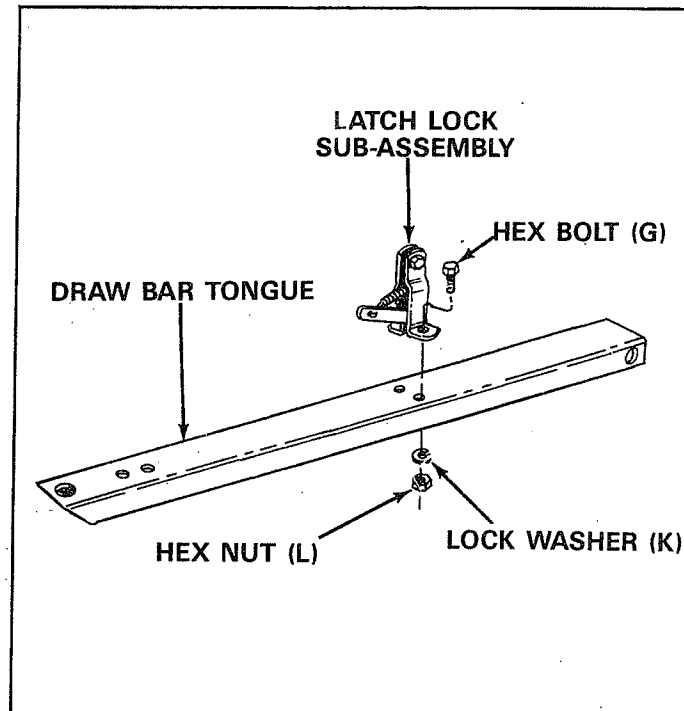

FIGURE 10
- Tighten all bolts assembled in step 4 through 14, lower cart assembly to rest on top flanges, with axle support up. See figures 10 and 12.
- Assemble latch lock subassembly to drawbar tongue using 1/4" x 5/8" long hex bolt (G), lock washers (K) and hex nuts (L). See figure 10.